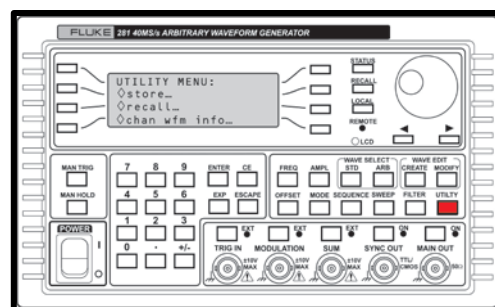

Figure 5.12 UTILITY menu
1. Locate the UTILITY button and press once to bring up the Utility menu (see **Figure 5.12**).